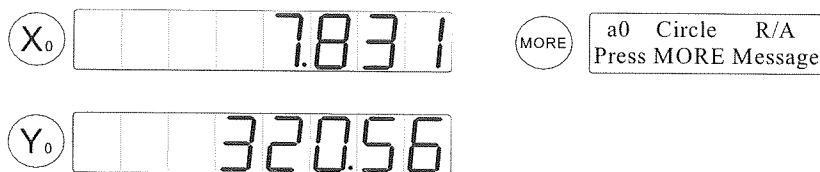

Figure 2-31 Circle Message in Polar Mode
- f. Press the POL CART key to see the center of the circle displayed as a vector displacement from the datum with its displacement angle from the positive X axis. (Figure 2-31)